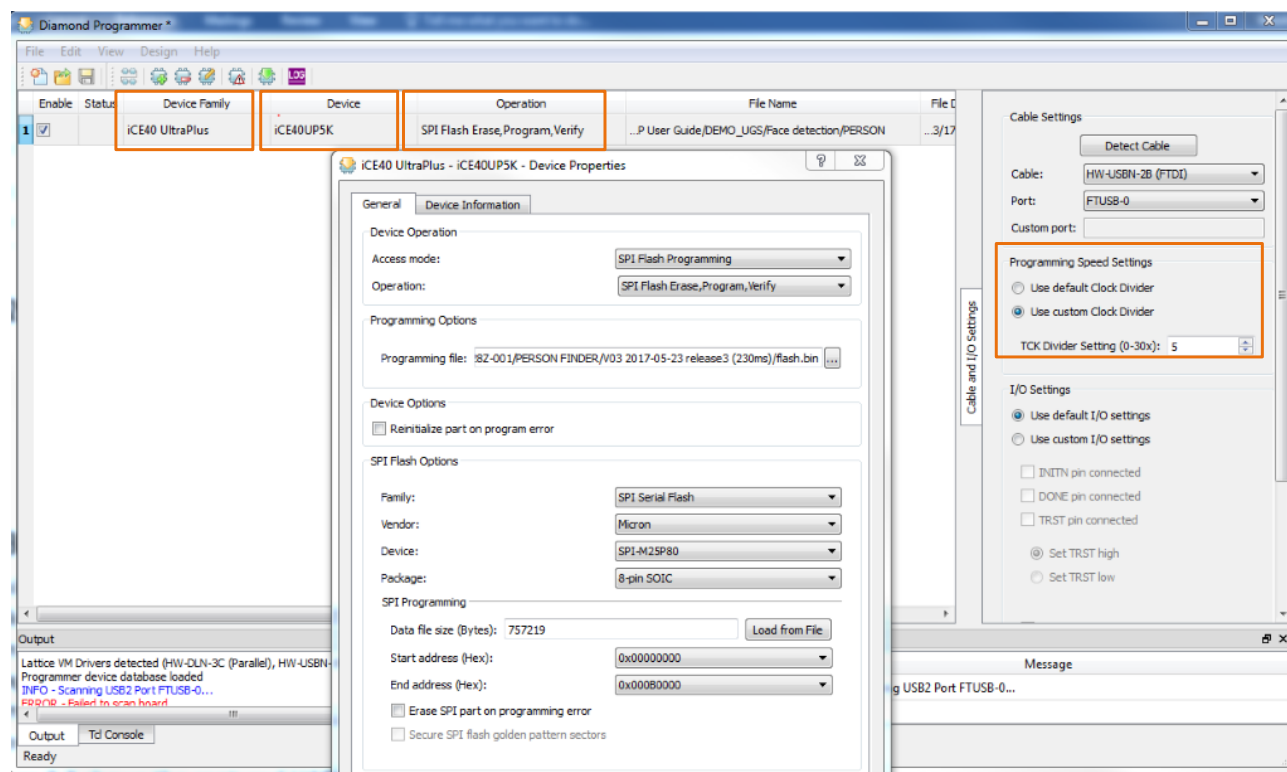

Figure 3.5. Programming Settings in Diamond Standalone Programmer
6. Open the Device Properties dialog. Apply the settings as shown in Figure 3.5.